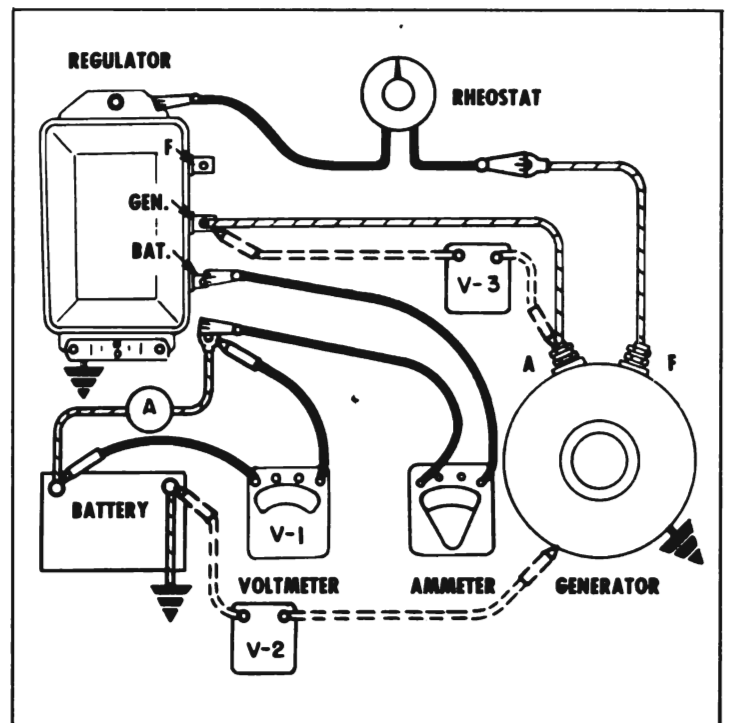

Figure 10-12—Testing Charging Circuit Voltage Drop
3. Measure voltage drop at V-1, V-2, and V-3. Return rheostat knob to "OPEN" position immediately after taking readings. See Figure 10-12. Readings V-1 and V-3 should not exceed .3 volt each. Reading V-2 should not exceed .1 volt.